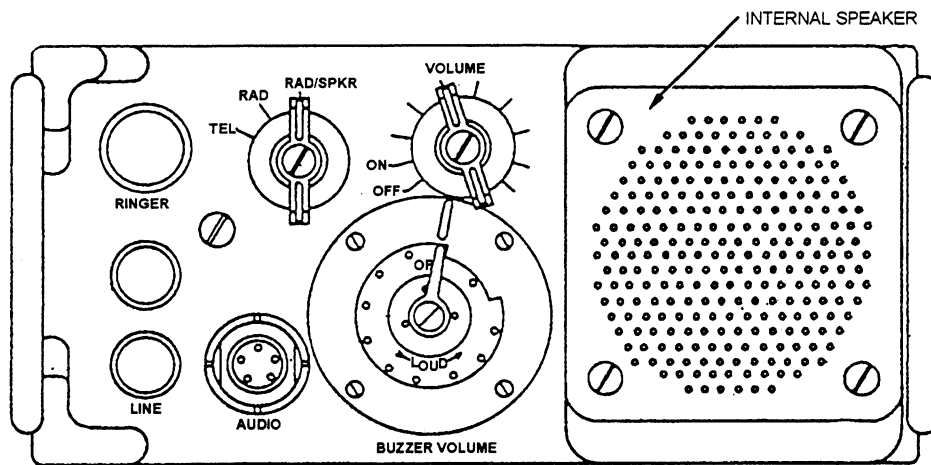

Figure 11-10.—Remote control unit C-2328/GRA-39.
**REMOTE CONTROL UNIT.**— The remote control unit (fig. 11-10) allows the operator at the remote site to transmit or receive through a radio set from a distance of up to 2 miles. The power supply (six BA-30s) for the remote control unit has a life expectancy of 24 hours.